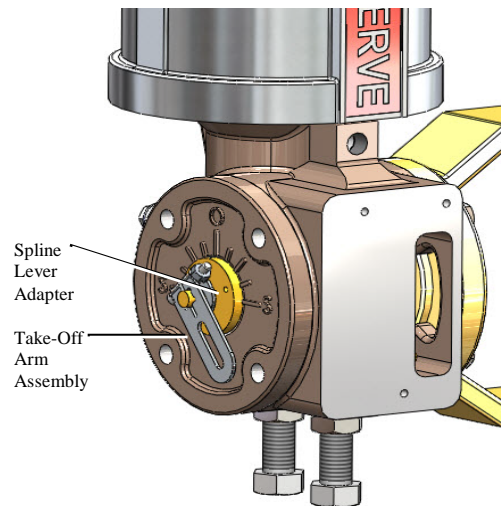

Figure 2: Valtek Rotary Take-Off Arm
- 1 Fasten the spline lever adapter to the splined lever using two 6 x 1/2" self-tapping screws. (Figure 2)